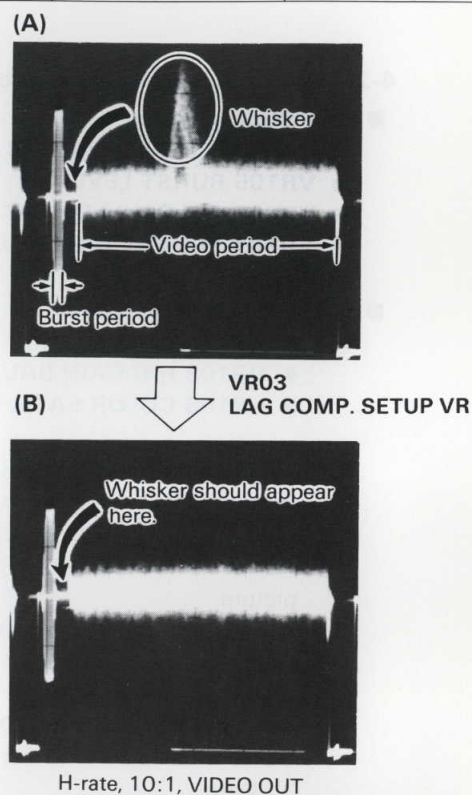

Fig. 4-18-1 LAG COMP. SETUP adjustment
- (1) With the iris closed, set the GAIN SW in 12 dB position.
- (2) Turn the VR02 LAG COMP. SETUP VR until the whisker as shown in Fig. 4-18-1 (A) have disappeared from the image as shown in Fig. 4-18-1 (B).